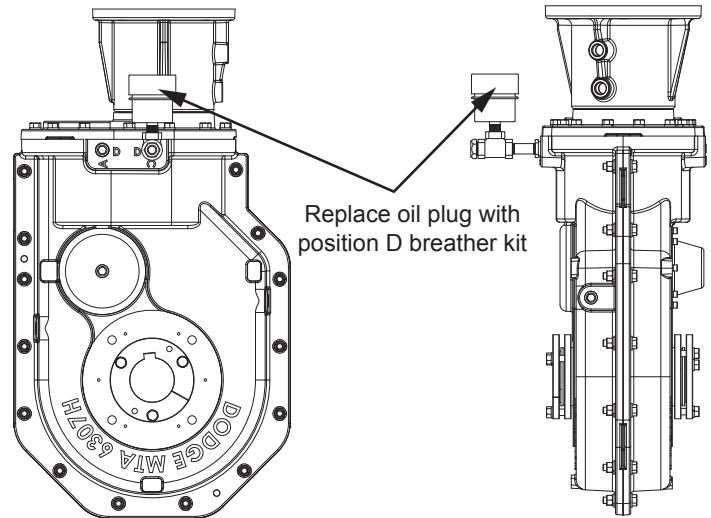

Figure 5 - Installing Position D Breather Kit
3. Remove standard breather from reducer (if installed) and replace with solid oil plug (see Figure 5).